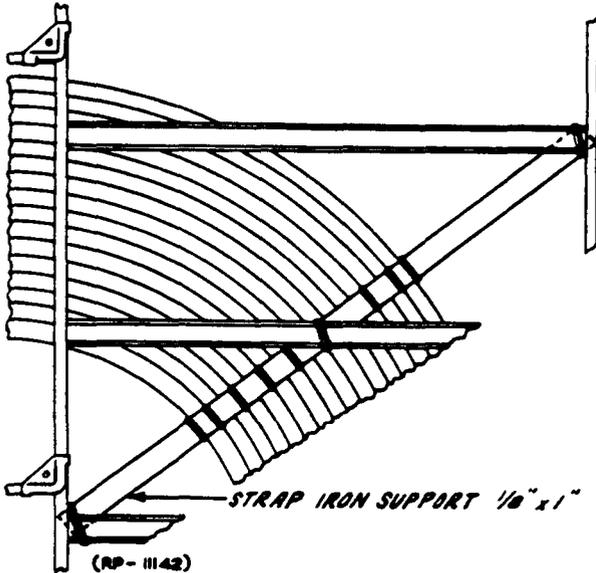

FIG. 20 METHOD OF SUPPORTING CABLES AT HORIZONTAL TURNS (PAR. 3.71)
3.71 At turns and junctions of horizontal resting runs where the turn of the cables is such that proper support is not provided for the cables by the cable rack cross straps, place 1/8" x 1" bars diagonally across the racks to support the cables, as shown in FIG. 20.